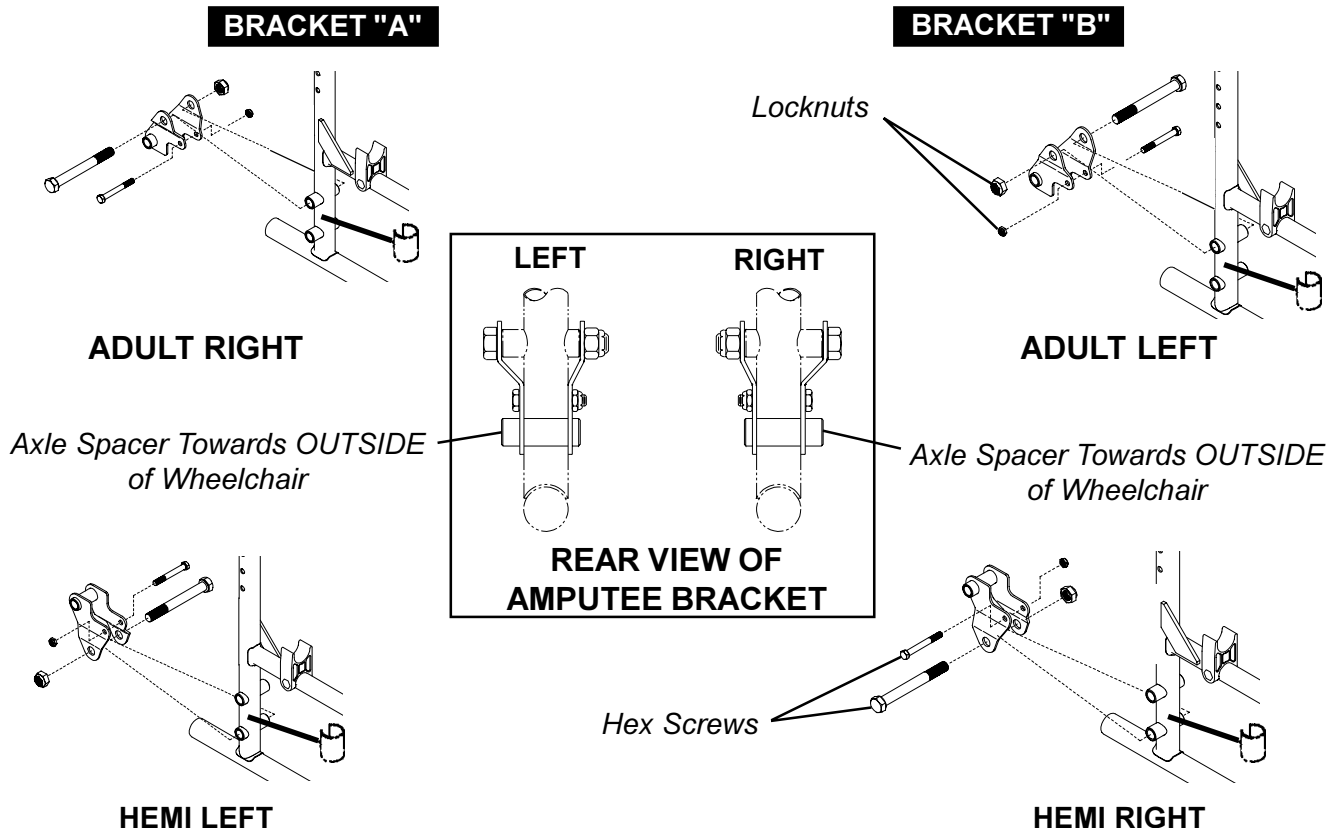

FIGURE 1 - INSTALLING THE AMPUTEE BRACKET
INSTALLING THE AMPUTEE BRACKET (FIGURE 1)
1. Refer to the following chart or **FIGURE 1** to determine the mounting position of the amputee bracket: